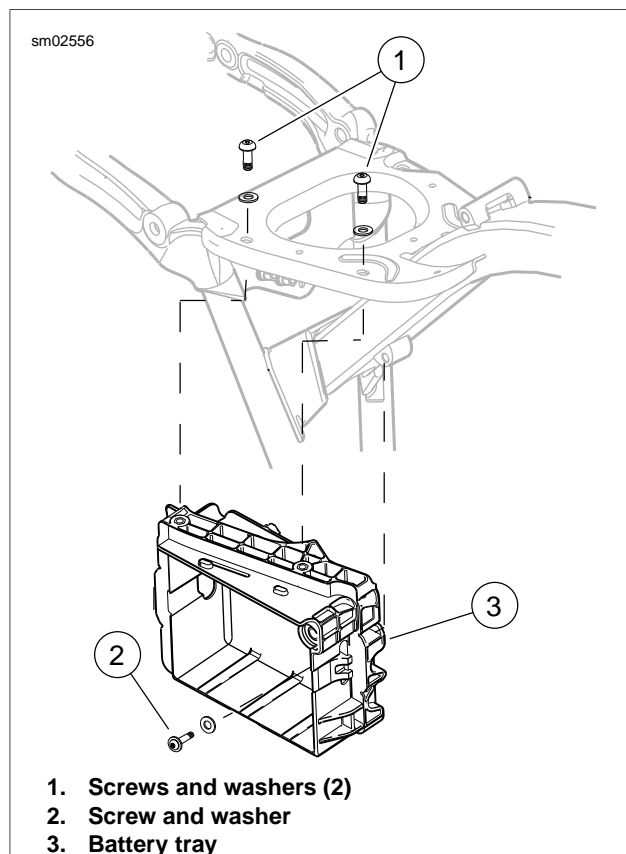

Figure 8-17. Battery Tray
2. See Figure 8-17. Remove two top screws and washers (1).
3. Remove screw and washer (2).
4. Guide battery cables out through holes in rear of battery tray (3) and remove tray.
3. See Figure 8-17. Install screws and washers (1, 2). Tighten screws to 96-120 **in-lbs** (10.8-13.6 Nm).